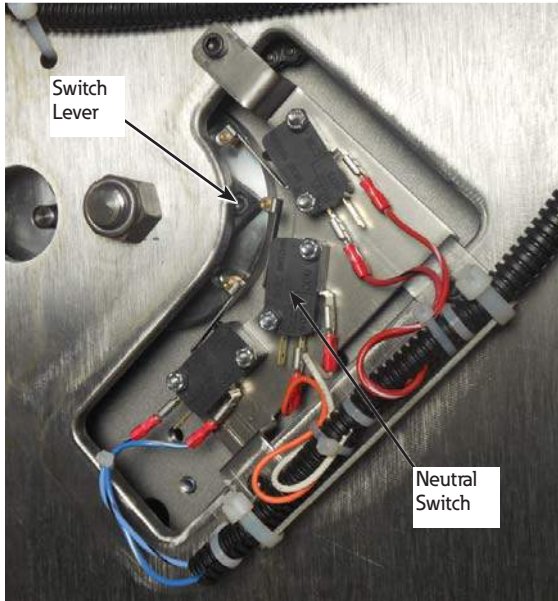

Figure 24. Neutral switch is depressed
D. The neutral switch will be depressed with the switch lever. See Figure 24.